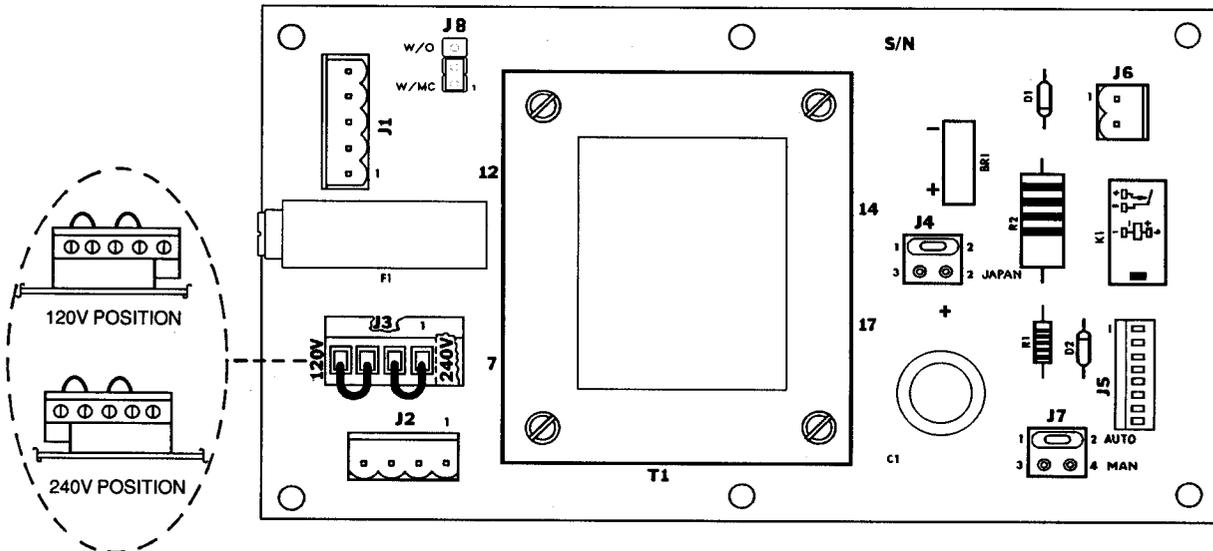

Figure 6 - Power Supply Circuit Board
2. Refer to Figure 6. Input voltage is selected by installing voltage selector plug in the 120V or 240V position. To change input voltage selection, remove voltage selector plug from J3 and install on power supply circuit board so voltage designation can be seen when proper input voltage has been selected.